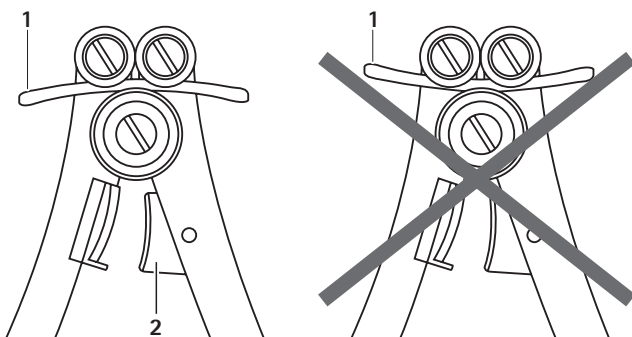

Fig. 2
- ▶ To decrease the lordosis, place bending wedge 2 over the bending zone, see Fig. 2.